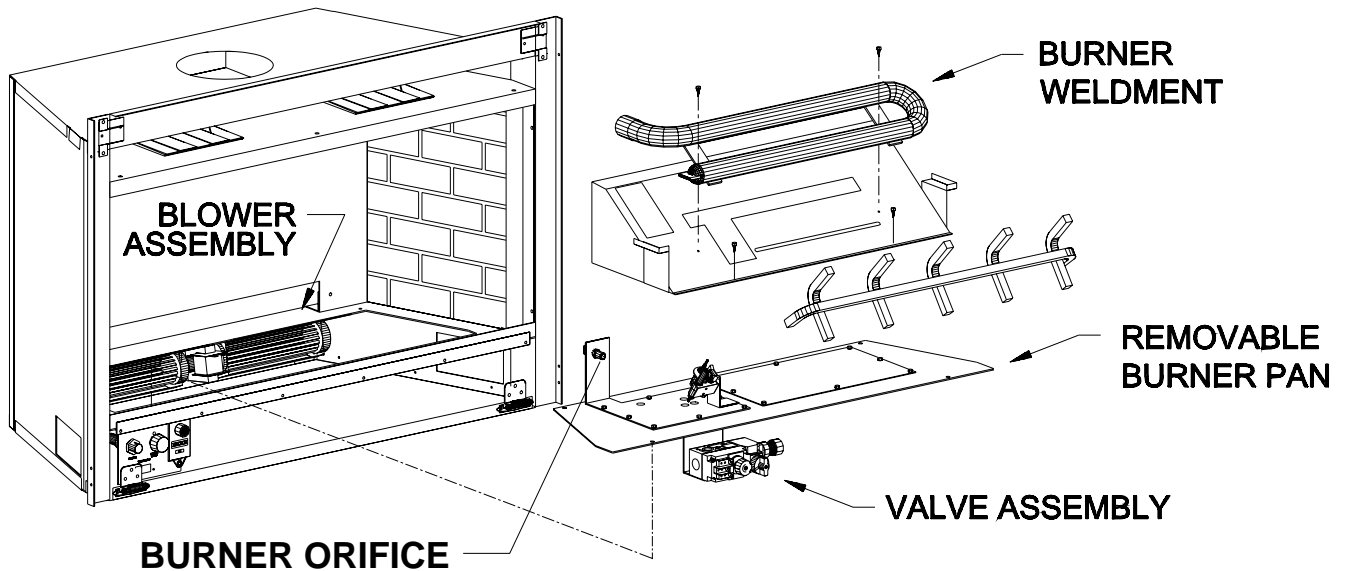

FIGURE 14
1. Refer to FIGURE 14. Disconnect power to fireplace and blowers.